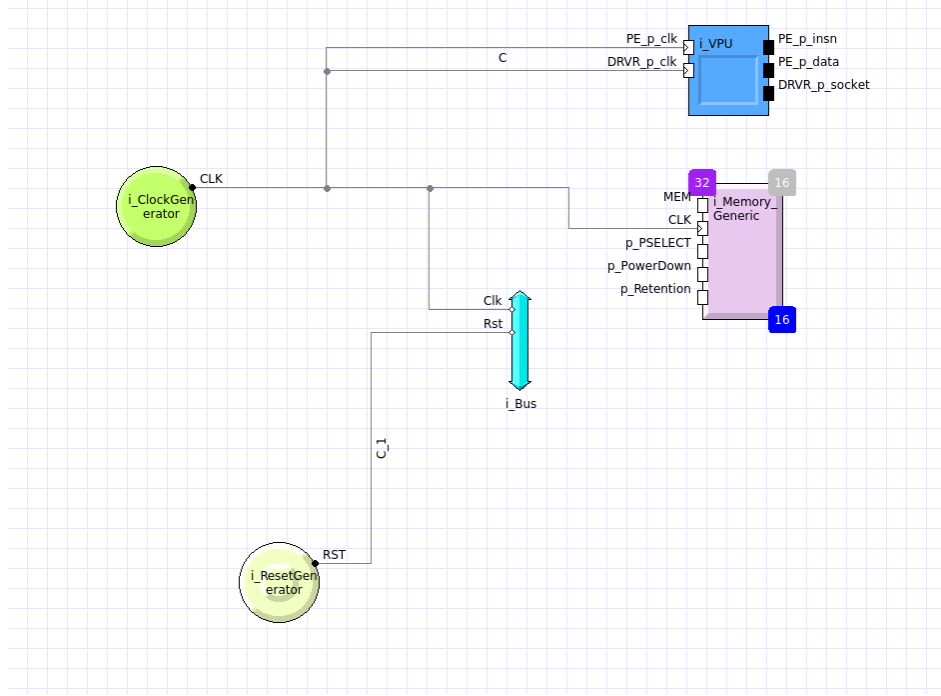

Figure 6: Block Design of the SoC Design
4. Start connecting the wires for the components of the SoC. The block design would be something like this (Figure 6):